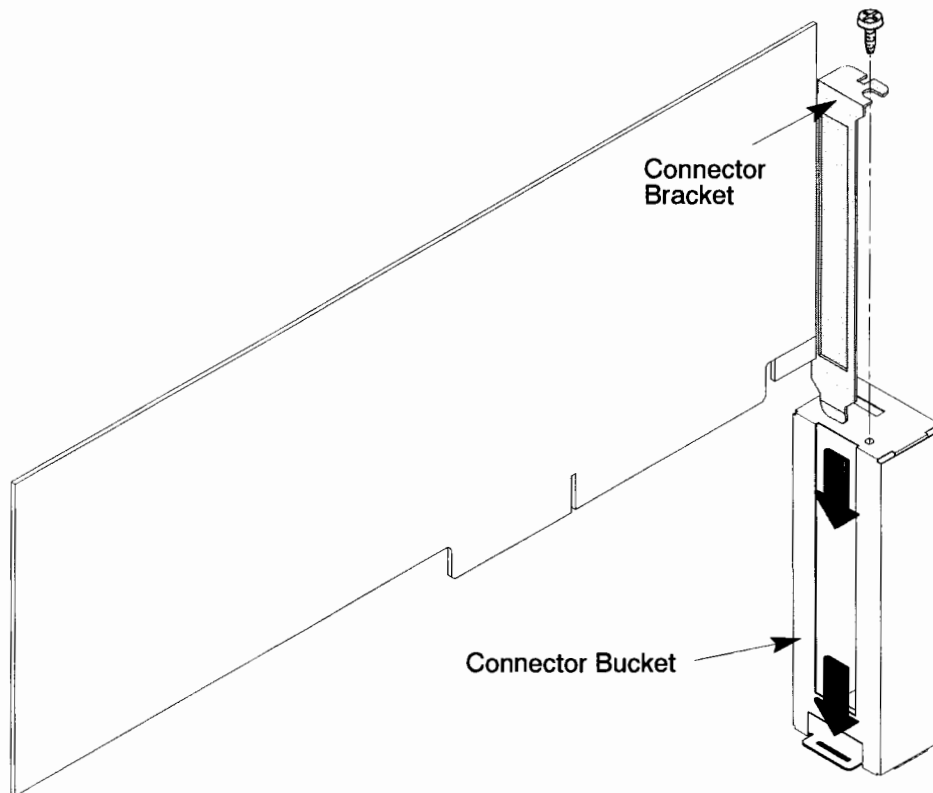

Figure B-49. Installing the Connector Bucket
5. Locate the EISA board you wish to install. Slide the connector bucket onto the EISA board connector bracket as shown in Figure B-49. Insert the tab at the bottom of the connector bracket into the slot on the connector bucket. Then use the screw provided on the bucket to attach the connector bracket.